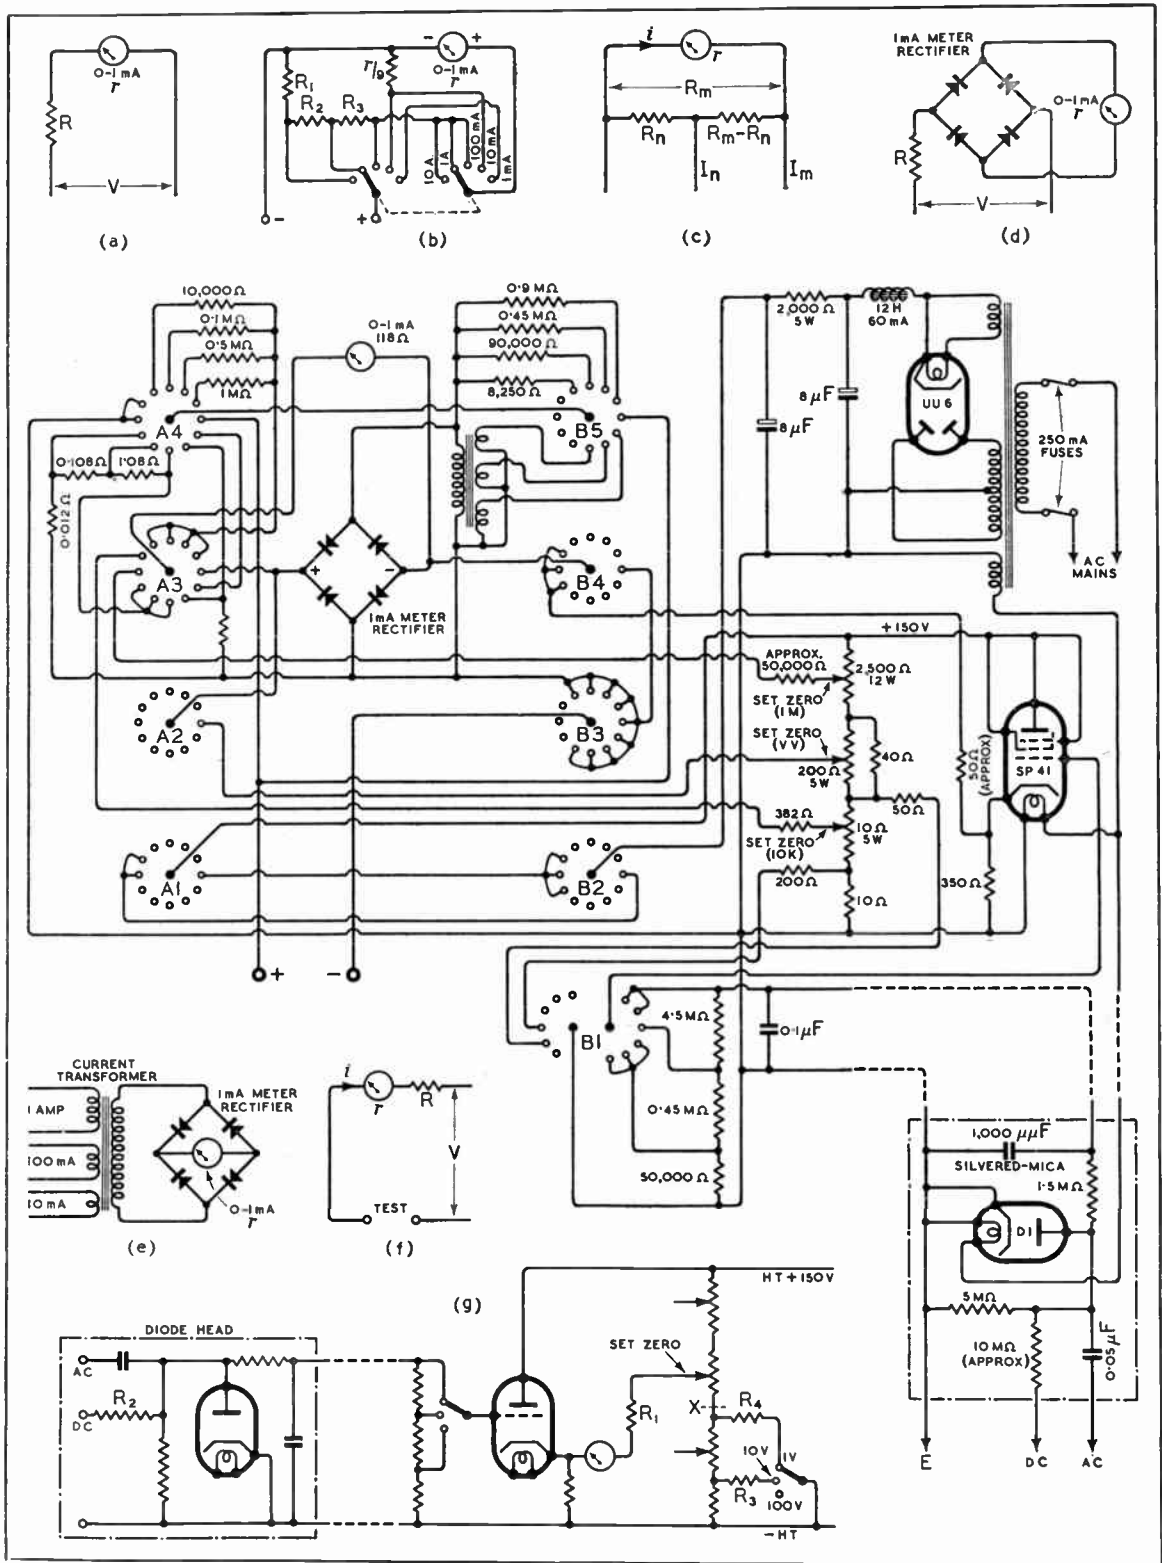

Fig. 2. Complete circuit of test meter and schematic diagrams showing basic circuits for various functions
volt. In Fig. 2 (a), if  $V$  volts produce full-scale deflection, and the resistance of the meter movement is  $r$  ohms, the required series resistance,  $R$  ohms, is given by  $R = 1,000 V - r$ .
**DC Current Meter.**—The meter movement alone is used for the 1mA range; for 10mA a shunt resistance of value  $r/9$  ohms is switched across the meter and on the 100mA and higher ranges a tapped shunt is used (see Fig. 2 (b)). The advantage of this method
\* A general formula (see Fig. 2 (c)) is
**AC Voltmeter.**—A Westinghouse 1mA meter rectifier is used (see Fig. 2 (d)). The DC current output from this type of meter
**AC Current Meter.**—A current transformer is used in conjunction with the meter rectifier (Fig. 2 (e)). The ranges covered are 0-10 mA, 0-100 mA and 0-1 amp.
**Ohmmeter.**—There are two ranges, covering resistance values from 10 ohms to 1 megohm. The fundamental circuit is shown in Fig. 2 (f).